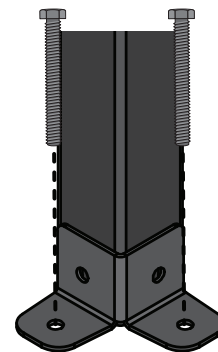

FIG. 10
We strongly recommend that the Stand is bolted down to the floor through the holes in the Stand Feet (H) [FIG. 10].